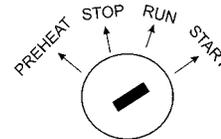

Figure 50. Ignition Switch (Run)
8. If the unit has an ignition switch (Figure 50), turn the key to the right, until the engine starts. Then release the key to 'Run'.